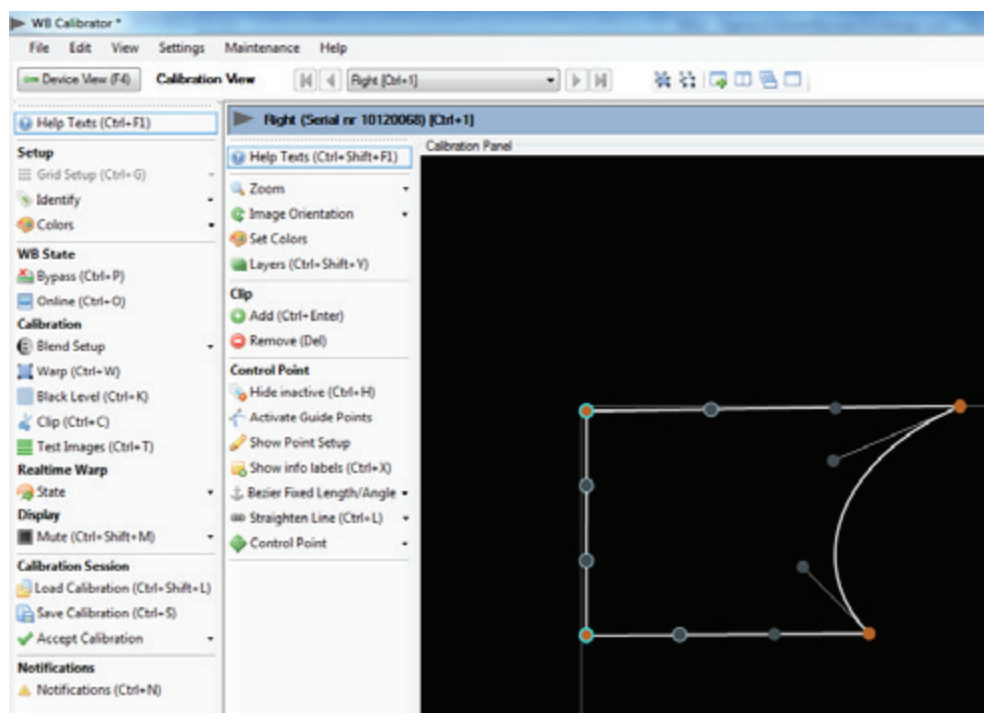

Figure 9-4. Clipping area complete.
**Note!** To add the last line connecting the first and last control point, it is important select both of the control points required to encapsulate the calibration area (Figure 9-4). To select multiple points, either press and hold Ctrl while using the mouse point to select points or drag and drop a selection rectangle over the points. Finally click (Add) again to add the last line.